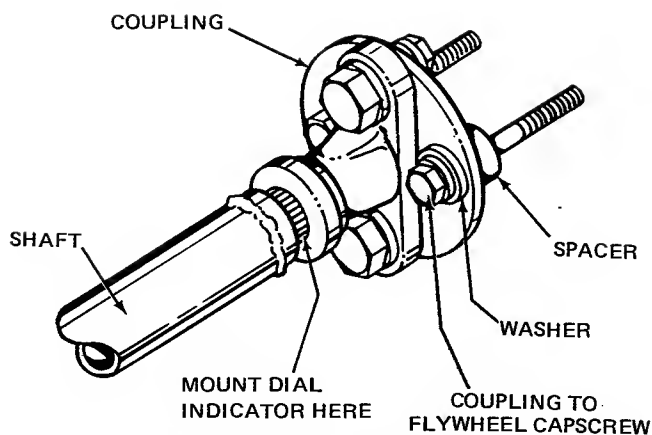

Figure 16. Rear PTO Coupling Installation
7. Loosely attach coupling (Figure 16) to flywheel through upper input pulley with two 3/8-16 x 3-1/2* inch capscrews, washers, and spacers. Apply Loctite to capscrews before installation.
8. Using a dial indicator, check shaft (Figure 16) for runout of no more than 0.025 of an inch at location indicated in Figure 16.